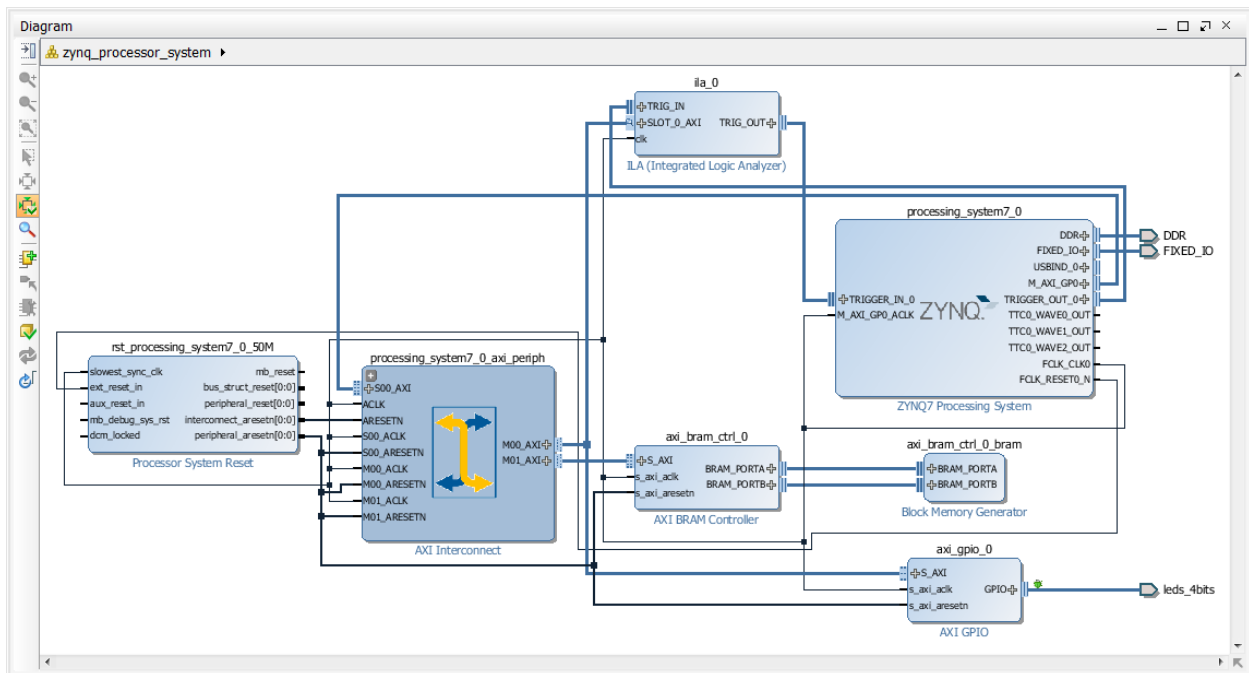

Figure 59: Block Design after Running Regenerate Layout
- Click the **Regenerate Layout** button  to generate an optimal layout of the design. The design should look as follows (FIGURE 59).